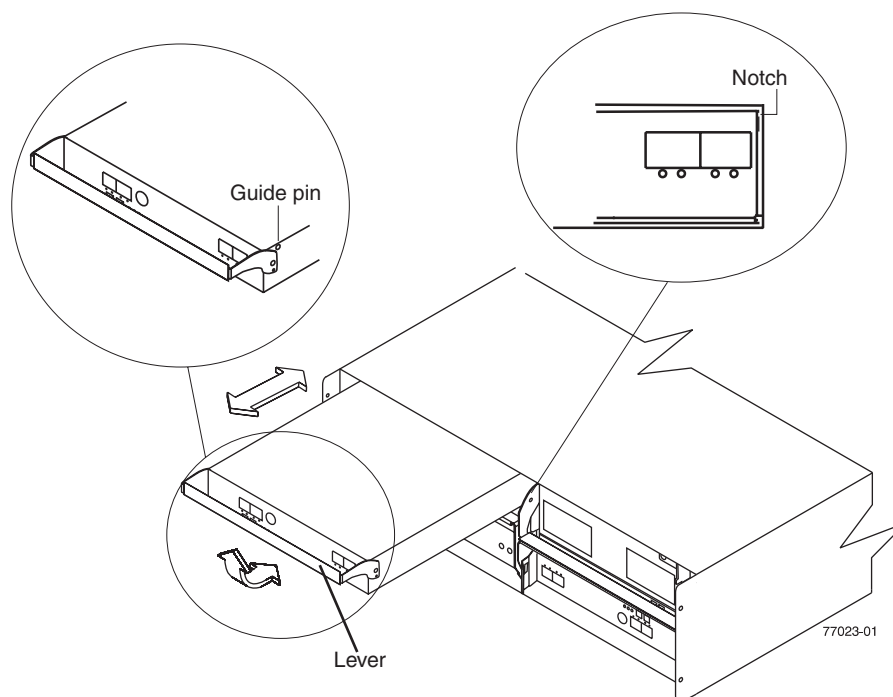

Figure 73. Installing a controller
- a. Slide one controller into the empty slot in the storage subsystem. Be sure that the lever is pulled straight out as you slide the controller in, as shown in Figure 73 on page 109.